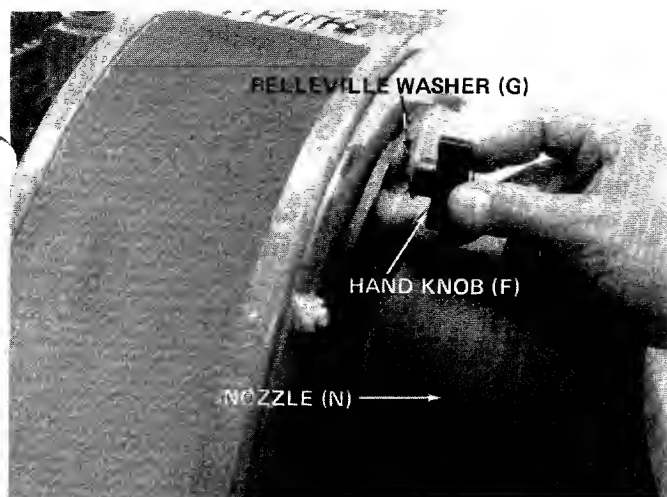

FIGURE 4.
1. Place nozzle (N) in position on front of housing so that it rests in flanges. Secure with one hand knob (F) and belleville washer (G). See figure 4.